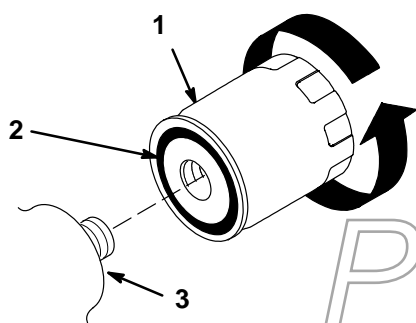

Figure 22
3. Apply a thin coat hydro fluid to the rubber gasket on the replacement filter (Fig. 22).
4. Install a replacement hydraulic filter onto the filter adapter. Tighten it clockwise until the rubber gasket contacts the filter adapter, then tighten the filter an additional 1/2 turn (Fig. 22).